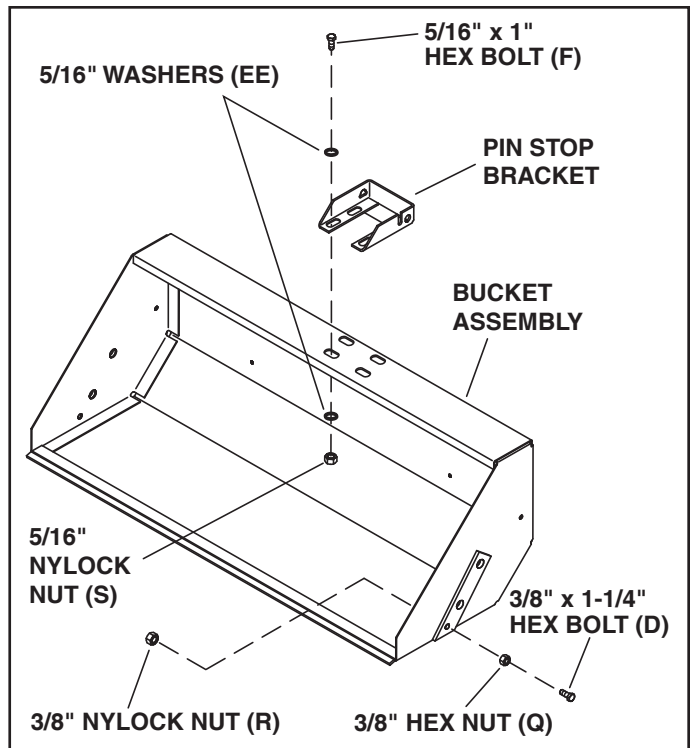

FIGURE 1
STEP 1: INSTALL TWO BOLTS (SEE FIGURE 1)
- Assemble two 3/8" x 1-1/4" hex bolts (D) and 3/8" hex nuts (Q), threading the nut all the way onto the bolt until it is tight against the head of the bolt.
- Install a nut/bolt assembly into the bucket assembly and fasten using a 3/8" nylock nut (R). **Tighten.** Repeat for the other side.
STEP 2: INSTALL PIN STOP BRACKET (SEE FIGURE 1)
- Install the pin stop bracket to the top of the bucket assembly using four 5/16" x 1" hex bolts (F), eight 5/16" washers (EE) and four 5/16" nylock nuts (S). Leave the bolts loose enough that the position of the pin stop bracket can be adjusted later.